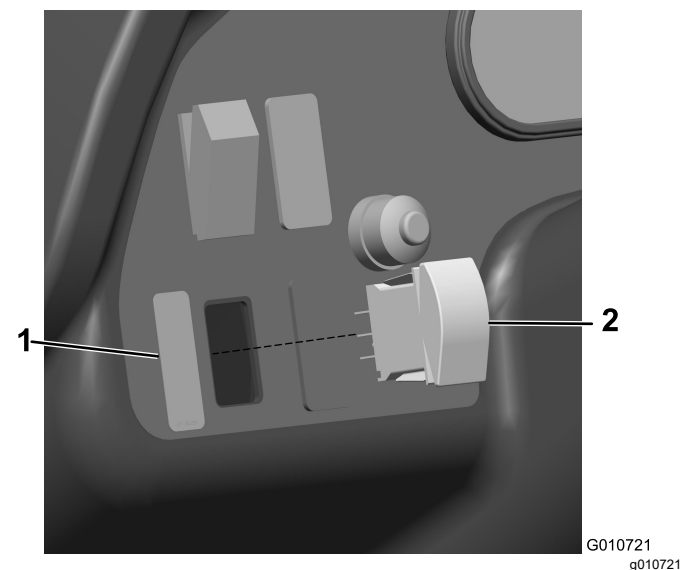

Figure 2
6. Remove 1 of the plugs from the switch-mounting holes on the left side of the dash (Figure 2).
7. Insert the work light switch into the hole in the dash until it snaps into place (Figure 2).
8. Apply the work light decal (107-8008) to the control panel next to the switch (Figure 2).